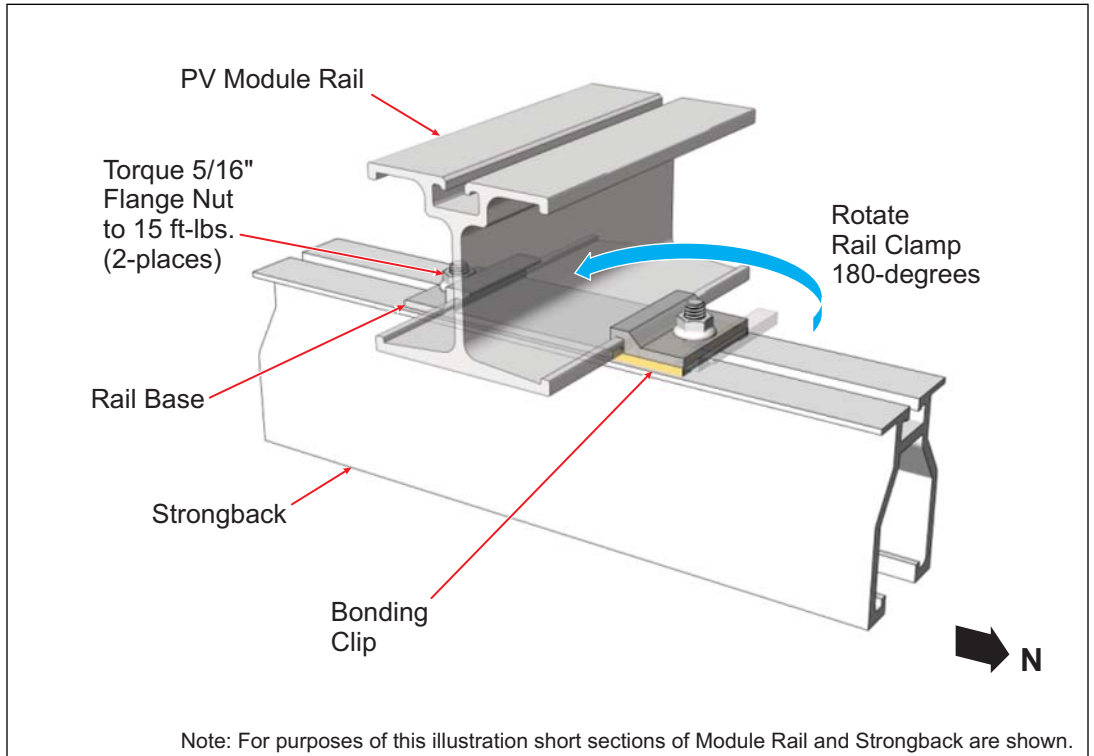

Figure 3: Installing the Rail (Strongback application)
- A. Install Module Rail ensuring that it nests into the Rail Base as shown in Figure 3.